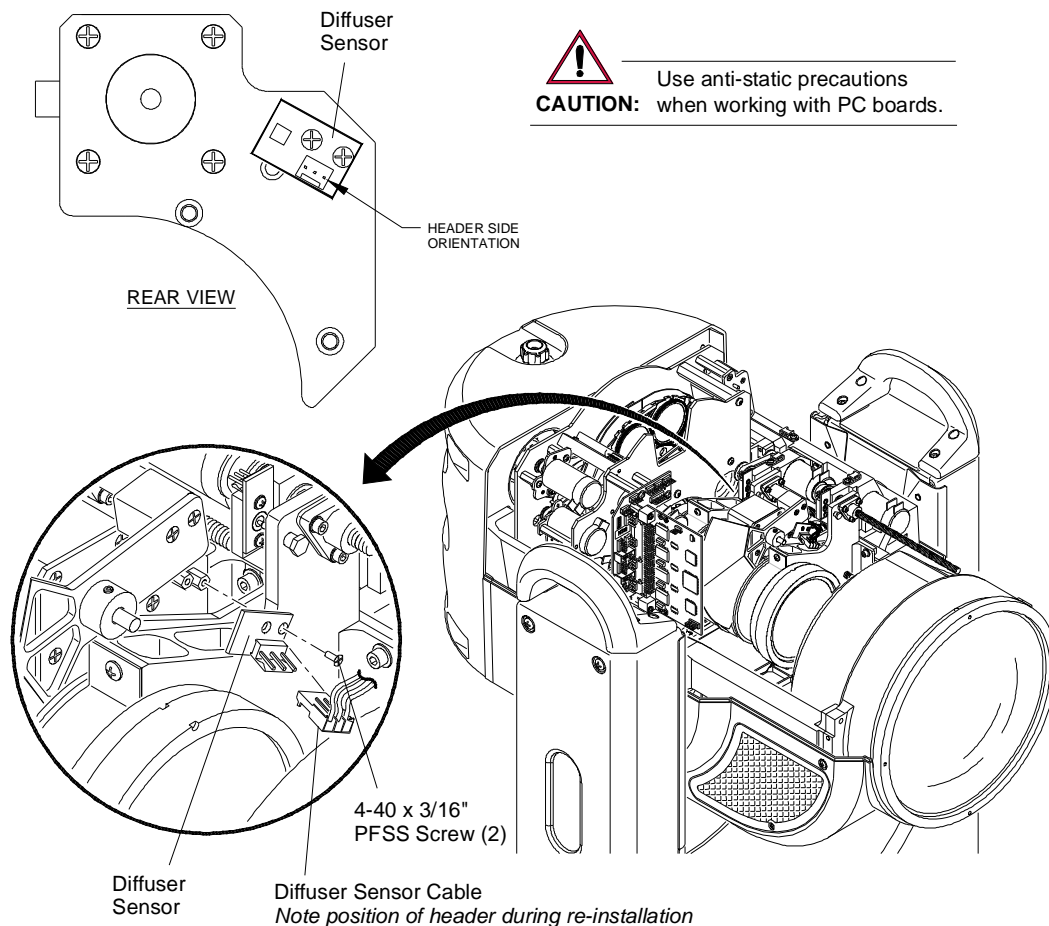

Figure 3-23: Removing Diffuser Sensor
- Step 3. At Diffuser Sensor, disconnect cable (**Figure 3-23**).
- Step 5. Replace Diffuser Sensor by doing steps in reverse. *Make sure header is below 4-40- x 3/16" screws as shown in Figure 3-23.*